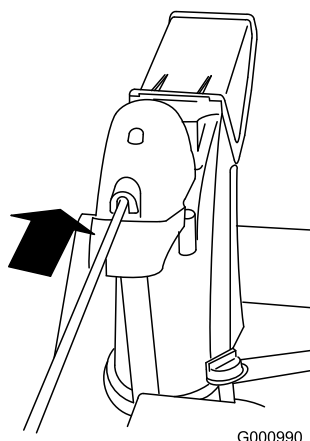

Figure 16
4. Insert the front end of the rod into the opening in the back of the chute gear cover until it slides into the chute gear (Figure 16).